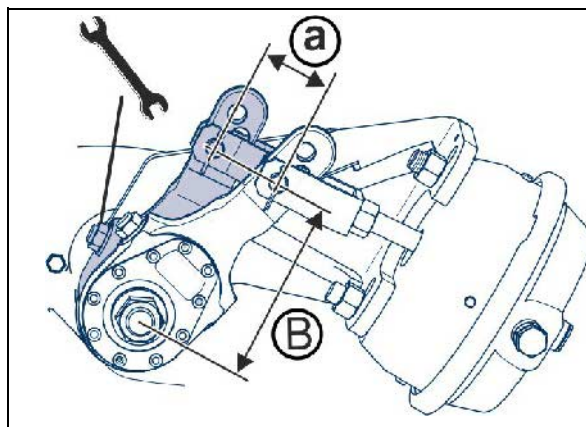

Fig. 126
1. Unscrew the two cover plates (Fig. 126/1) on the inside of the brake drum.
Dirt entering the drums may be deposited on the brake shoes (Fig. 126/2) thereby appreciably reducing braking performance.